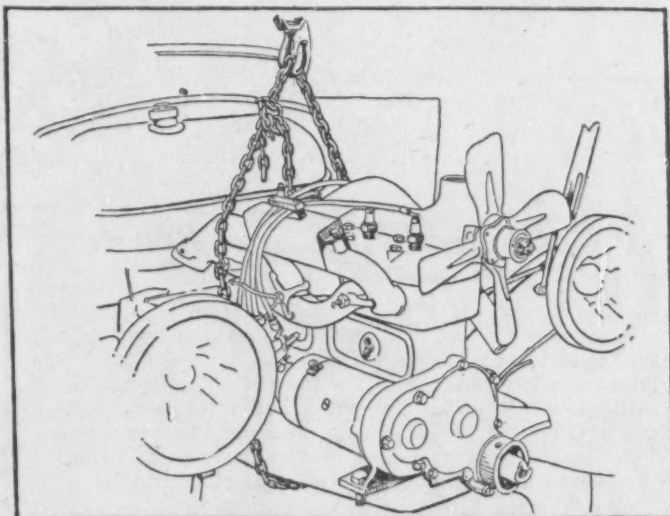

Fig. 9—Showing how chain should be slung around engine for removal
37. Put chain sling around engine, as shown in Fig. 9.